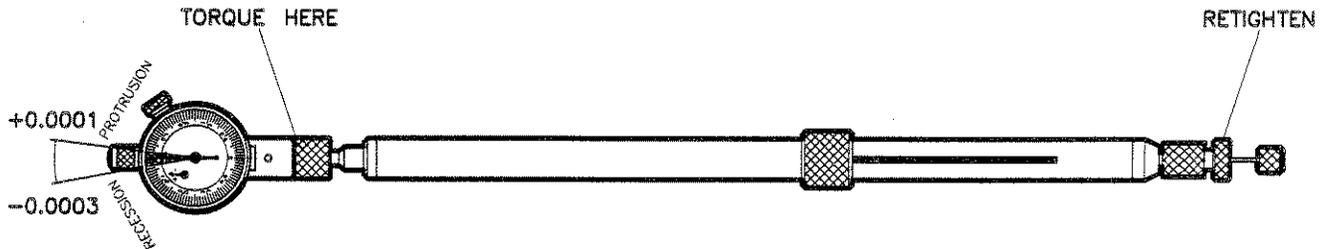

Figure 4-2. Gaging the Sliding Load Termination
2. Mate the outer conductor of the sliding load with the gage's outer conductor. Torque the connection with a 5/16 inch torque wrench to 8 in-lb (Figure 4-2). Retighten the center conductor pull back nut (b) — it will 'click' when it is tight.